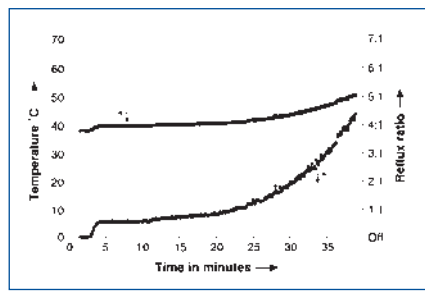

Fig. 11: Reflux ratio controlled by top plate temperature
- batch distillation with reflux ratio control from a column temperature (Fig. 11 - page 6)